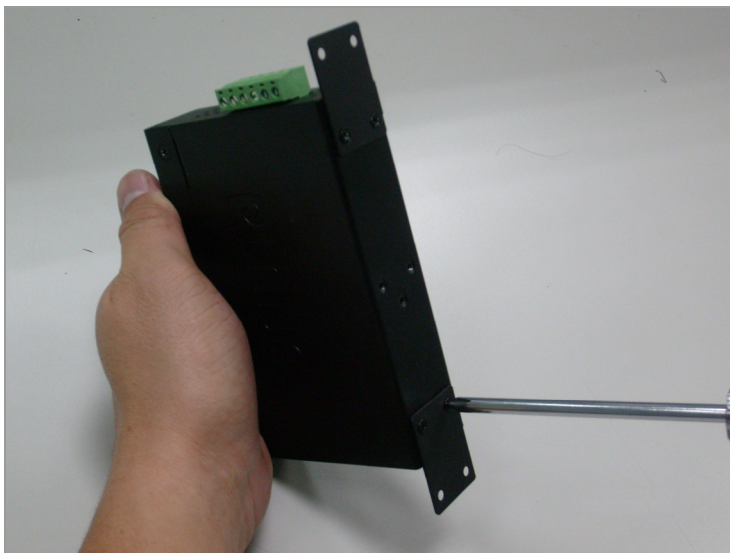

Figure 2-11 Attach brackets to the Industrial Equipment.
**Step 2:** Place the wall mount plate on the rear panel of the Industrial Equipment. Figure 2-11 shows how to attach brackets to one side of the Industrial Equipment.